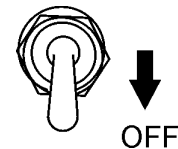

Figure 27. Idle Control switch (OFF)
3. Place idle control switch (Figure 27) in the **OFF** position.